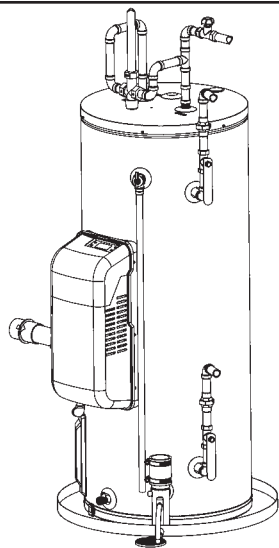

Figure 49. Water Heater with Side Taps for Space Heating
Your water heater is equipped with Combo Heating capabilities and are shipped with the two side plumbing taps **PLUGGED** (items 24 and item 29 in *Figure 3* (page 13)). See also *Figure 49* (page 38). If the heater is to be operated using the side taps for combo heating, these plugs must be removed.